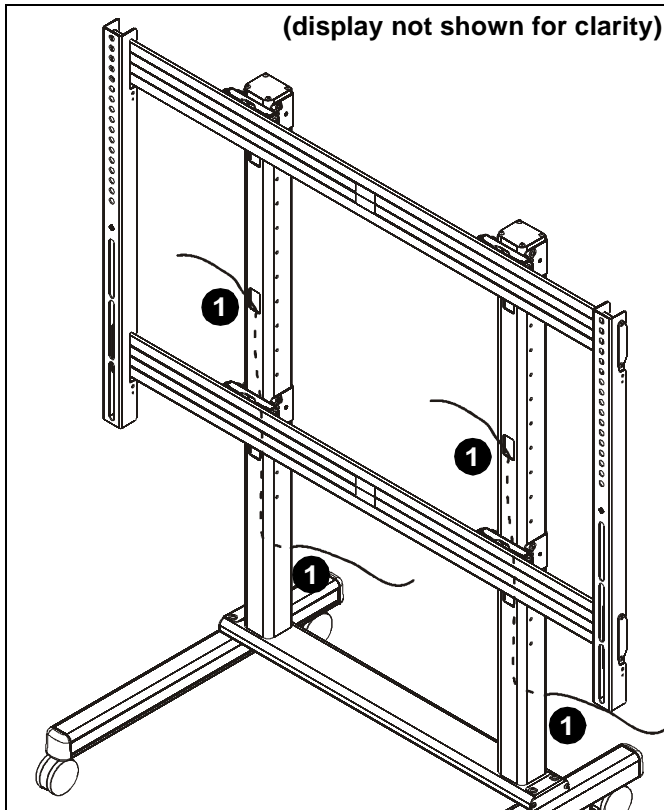

Figure 11
1. Route cables from displays through nearest holes on front of columns and out through back cable management hole. (See Figure 11)